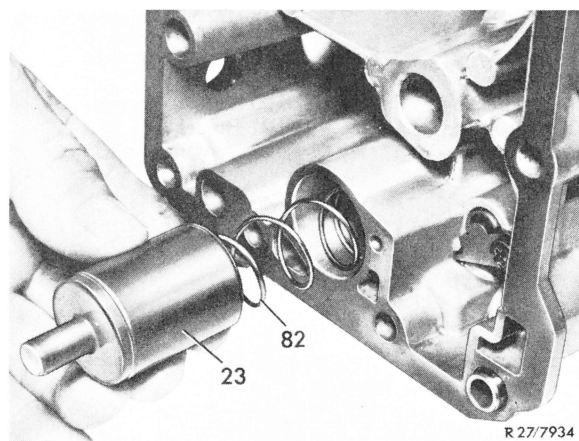

Fig. 10
Insert compression spring (82) into piston (23) and introduce both together into case (Fig. 10).